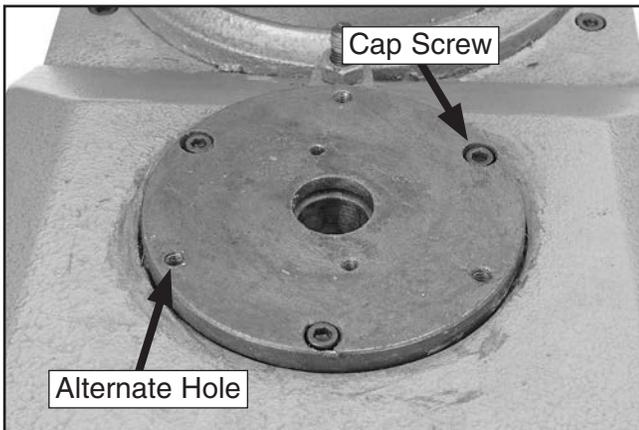

Figure 78. Upper bearing housing and cap screws.
- Remove the three upper bearing cap screws (see **Figure 78**), and thread them into the alternate three holes to draw the bearing housing up.